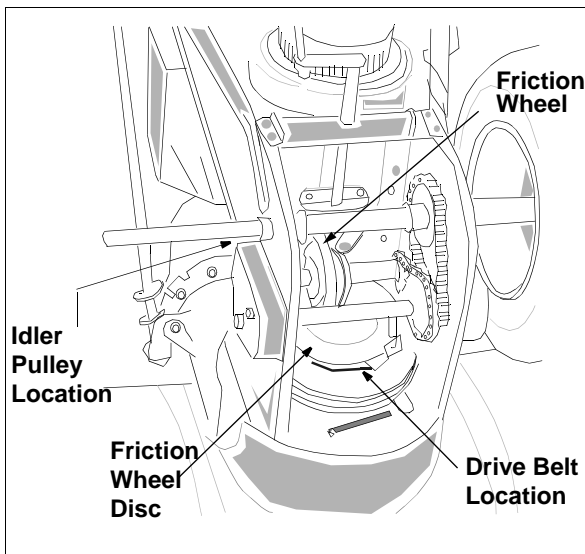

Figure 30
- With the traction drive clutch engaged, the friction wheel must contact the drive plate (shown in Figure 30).
- Pull the idler pulley away from the drive belt and remove the belt from the engine pulley. You will find the idler pulley in front of the engine and under the belt cover that you removed earlier. See Figure 30.
- Working from the underside of the frame, slip belt between the friction wheel and the friction wheel disc. See Figure 30. You may have to twist the belt flat in order to slide it through the clearance between the friction wheel and the friction wheel disc. Remove the belt completely.